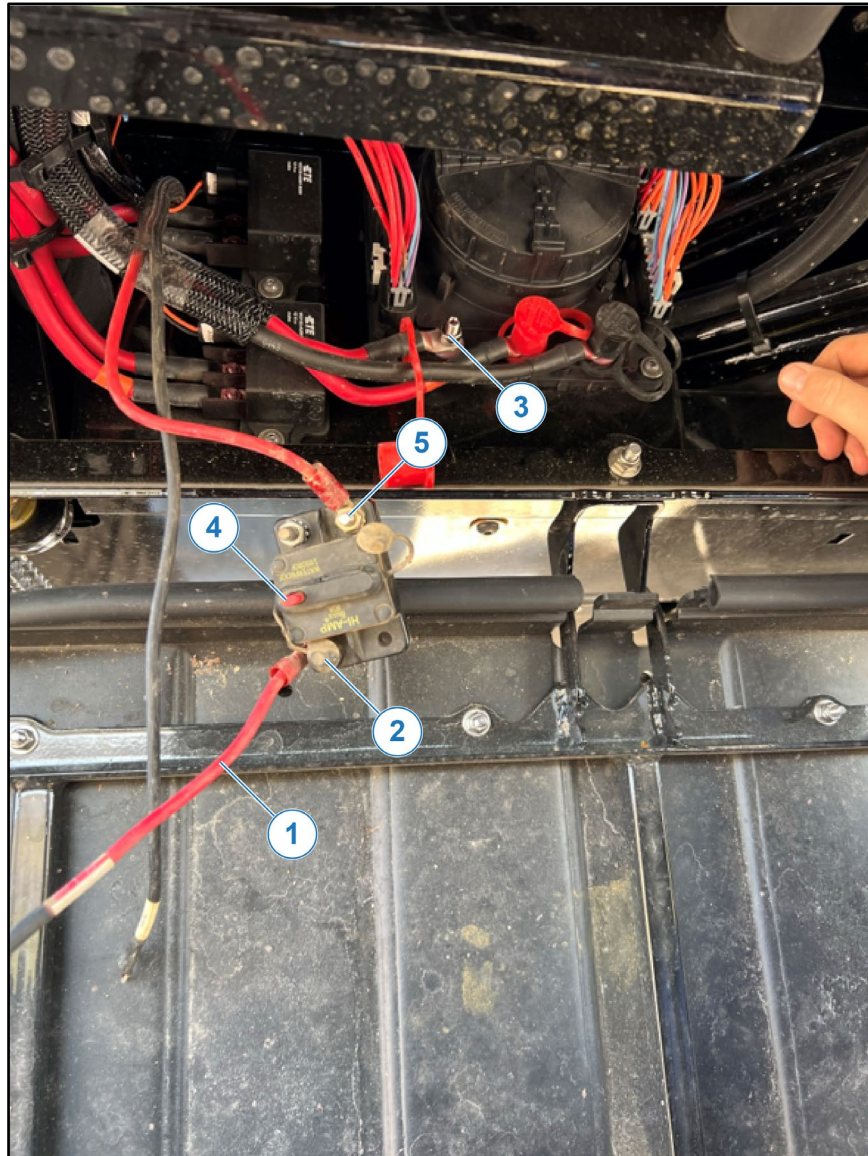

Figure 7 — Power Terminals
7. *Figure 7:* Cut a short length (4" to 6") of wire (1) from positive power harness cable and cap one end with ¼" ring terminal (2) included to fit supplied circuit breaker and the other end with a ring terminal correctly sized for positive battery lug (3).
8. Secure circuit breaker appropriately in battery area. Ensure it is open prior to installation by pressing red button on top (4).
10. Attach the ring terminal to breaker lug labeled AUX (5).
11. Attach short length of wire trimmed from the positive power harness cable earlier to breaker lug labeled BAT (2). Attach other end to positive battery lug (3).